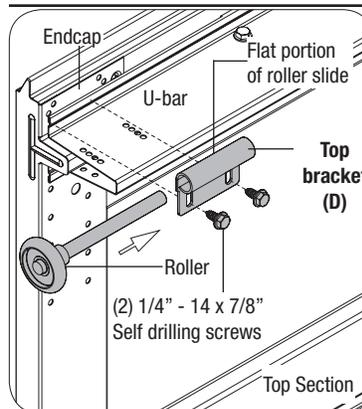

FIG. 4.7
Vertically align the flat portion of roller slide with the endcap and u-bar at the top of top section. Fasten roller slide using (2) 1/4" - 14 x 7/8" self drilling screws, as shown in FIG. 4.7. Repeat the same process for the other side.